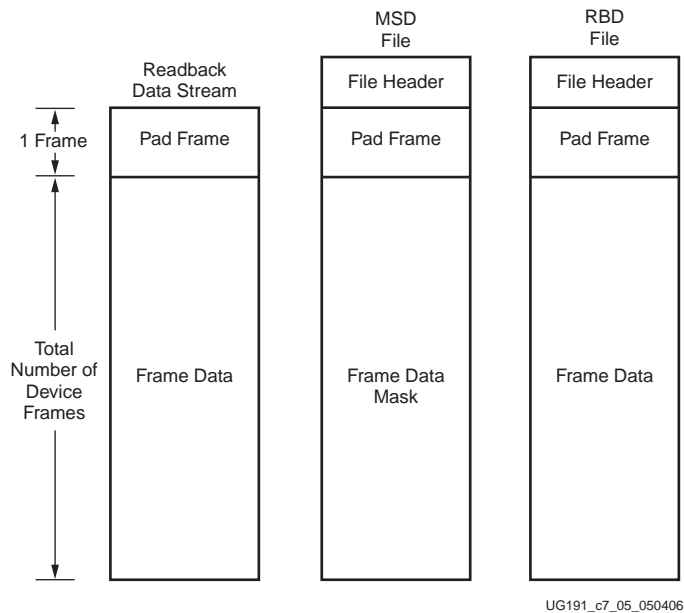

Figure 7-5: Comparing Readback Data Using the MSD and RBD Files
1. Compare readback data to the RBD *golden* readback file. Mask by using the MSD file (see Figure 7-5).